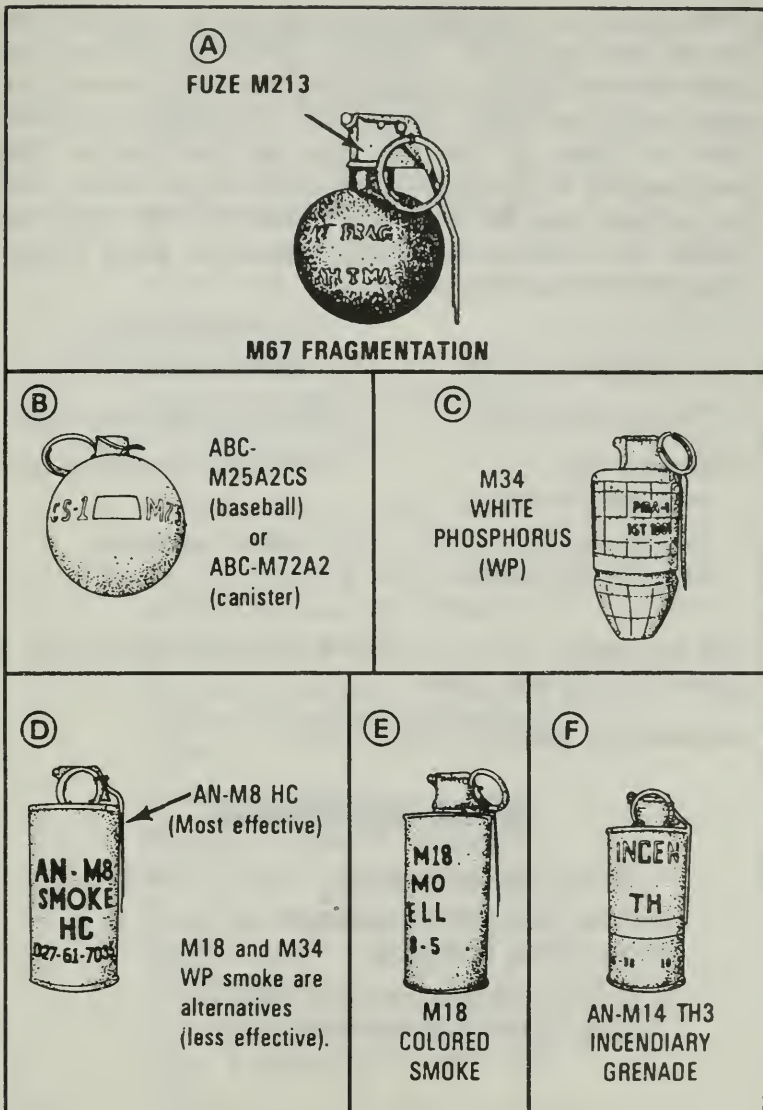

Figure 194. Hand grenades.
Setup: At the test site, provide pictures (Figure 194) of the following six hand grenades: M67 fragmentation grenade, an ABC-M25A2 CS riot-control grenade, M34 white phosphorus (WP) smoke grenade, an AN-M8 HC smoke grenade, an M18 colored smoke grenade, and an AN/M14 TH3 incendiary grenade. The soldier will explain the use of these grenades and then use dummy grenades to engage the following targets: